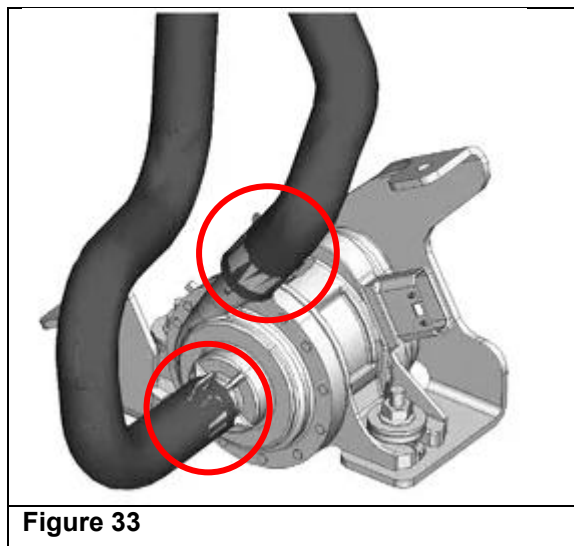

Figure 33
68. Disengage the two (2) hose clamps on the hoses to the water pump by squeezing the tabs with pliers and moving the clamps further up the hose and off the water pump ports. (See Figure 33.)